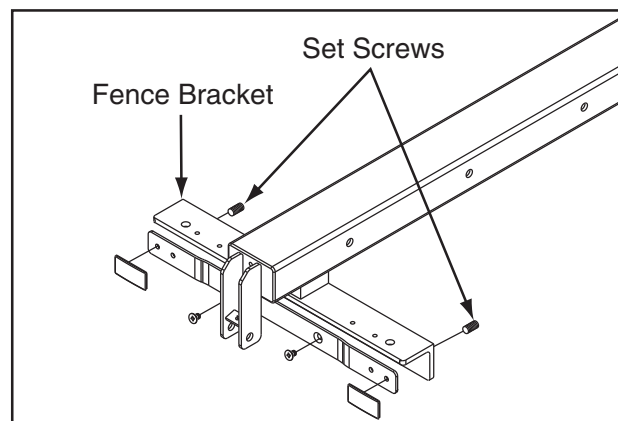

Figure 140. Location of set screws used to adjust fence parallelism and clamping pressure.
- Remove the fence, equally adjust the set screws shown in **Figure 140**, then re-install the fence and check the clamping pressure. Re-adjust as needed until the fence will not move as pressure is applied against it.